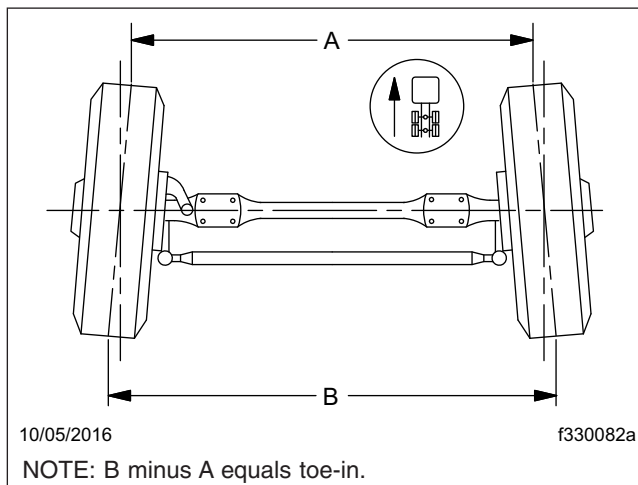

Fig. 5, Wheel Toe-In (overhead view)
6. Place a trammel bar at the rear of the front tires; locate the trammel pointers at spindle height, and adjust the pointers to line up with the scribe lines on the center ribs of the front tires. See Fig. 5. Lock in place. Check that the scale is set on zero.